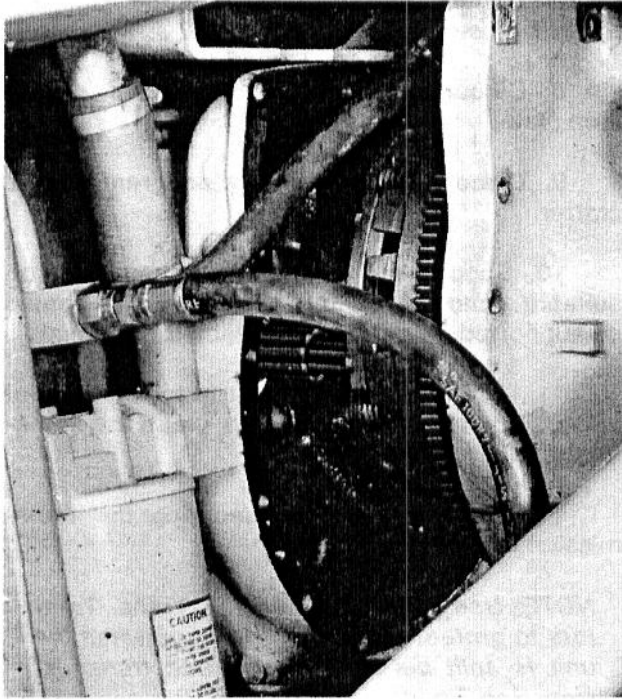

FIG. 5 — RIGHT-HAND VIEW OF I.R. TRANSMISSION
14. Carefully lower the transmission just enough to clear the instrument panel support as shown in Figs. 5 and 6, then continue rolling the transmission and center housing assembly rearward.